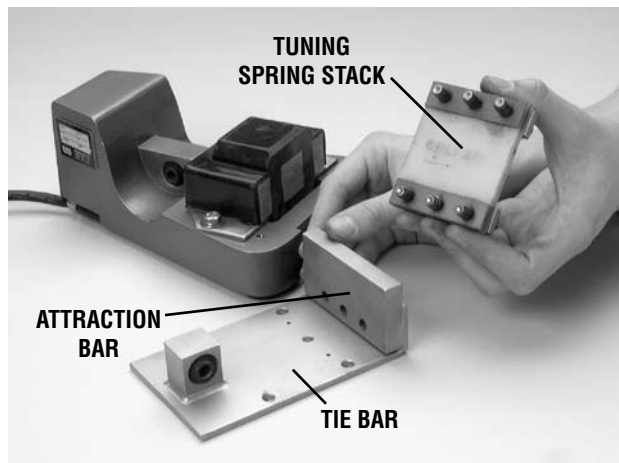
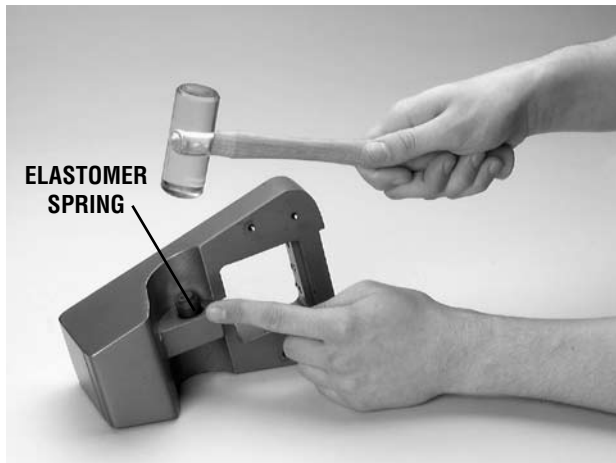

FIGURE 6
FIGURE 8
To obtain the maximum desirable deflection of 0.110" to 0.120" (2.8 mm to 3.0 mm), it may be necessary to add, subtract or substitute tuning spring leaves in the tuning spring stack (see Figures 6 and 7) at the front of the unit.
If spring failure is suspected, the tuning spring stack should be removed by removing the six bolts attaching it to the body and the tie bar/attraction bar (see Figure 6).
2. Lay the unit on its side and use a small hammer and flat-ended round bar or dowel to tap the elastomer spring out of the body housing (see Figure 8). Next, support the tie bar (shown in Figure 6) with a small block between the tie bar and work surface, and tap the spring out of the tie bar.